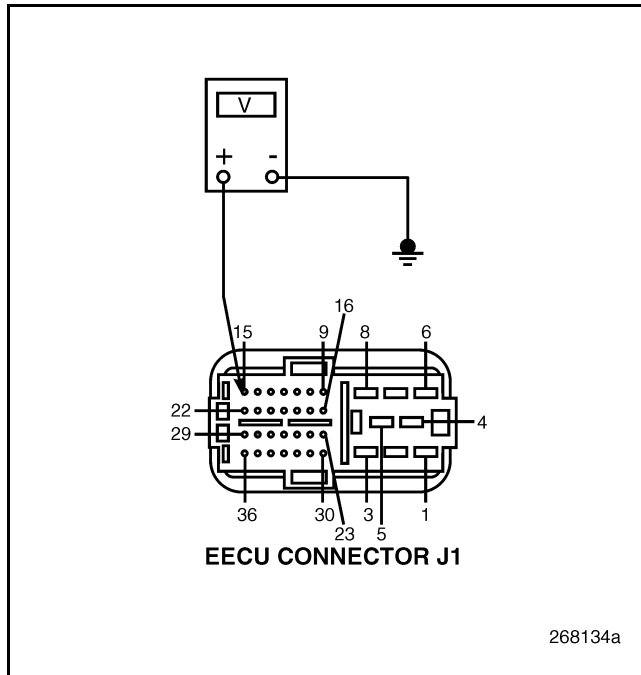

Figure 843
4. Measure the voltage between EECU connector J1 pin 15 and a good ground (see Figure 843).